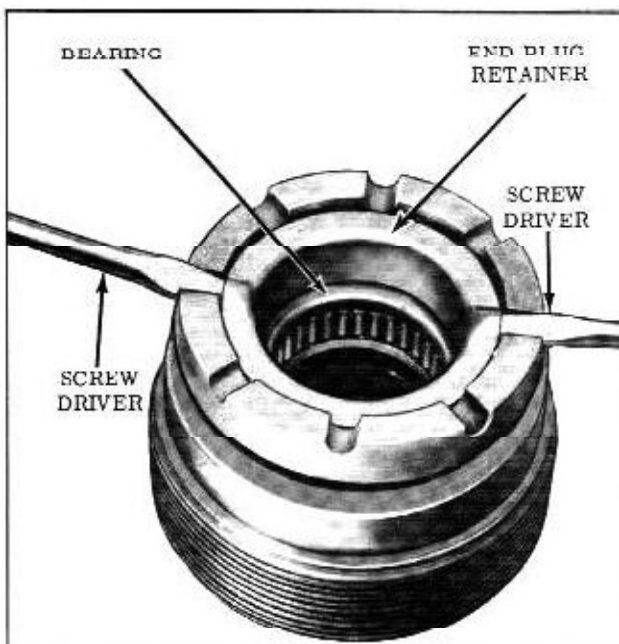

Fig. 4-79 Removing Retainer
2. Remove the thrust bearing retainer by prying at the two raised areas with an awl or small screw driver, remove the spacer, thrust bearing washers, thrust bearing and washer. (Fig. 4-79)